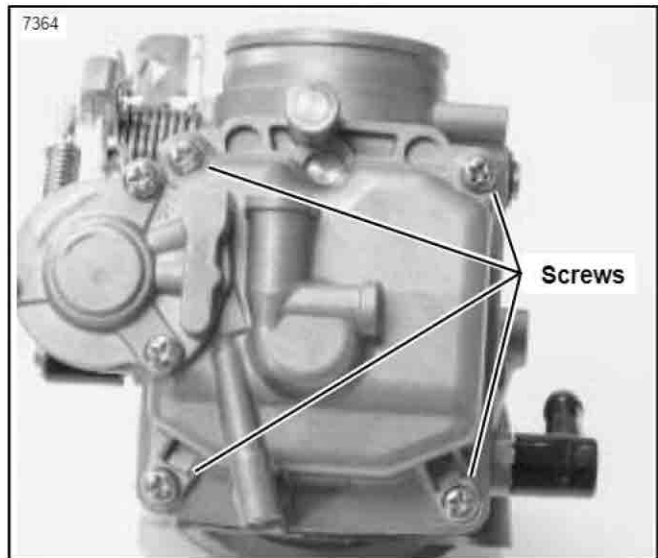

Figure 4. Float Bowl Screws
2. See Figure 4. Remove the four screws to detach the float bowl.